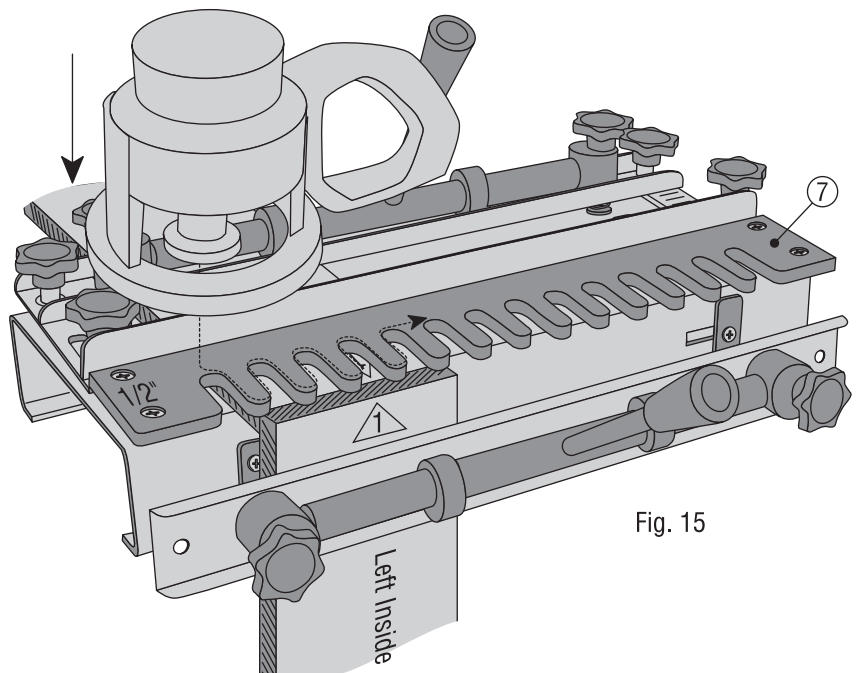

Fig. 15
- 1) Place the Router Base on the Comb (7) and begin to cut from the edge of the left side Comb finger.
- See fig. 15.